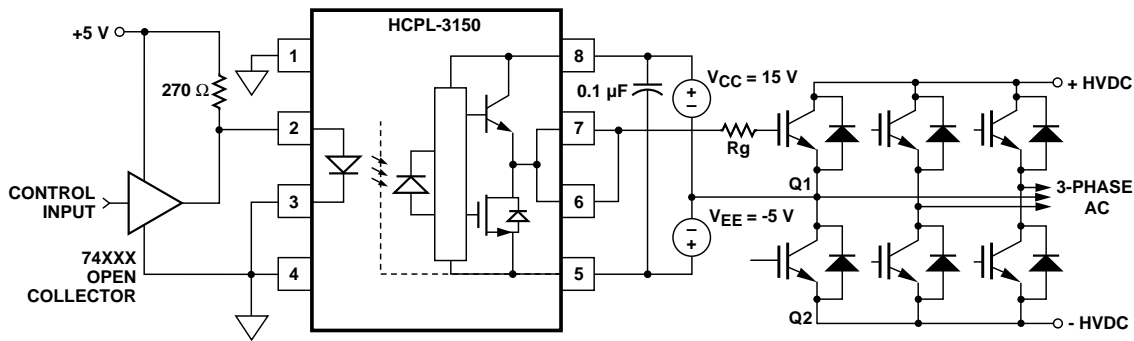

Figure 26. HCPL-3150 Typical Application Circuit with Negative IGBT Gate Drive.
Step 1: Calculate Rg Minimum From the IOL Peak Specification. The IGBT and Rg in Figure 26 can be analyzed as a simple RC circuit with a voltage supplied by the HCPL-3150.
For the circuit in Figure 26 with I_F (worst case) = 16 mA, Rg = 30.5 Ω , Max Duty Cycle = 80%, Qg = 500 nC, f = 20 kHz and T_A max = 90°C: